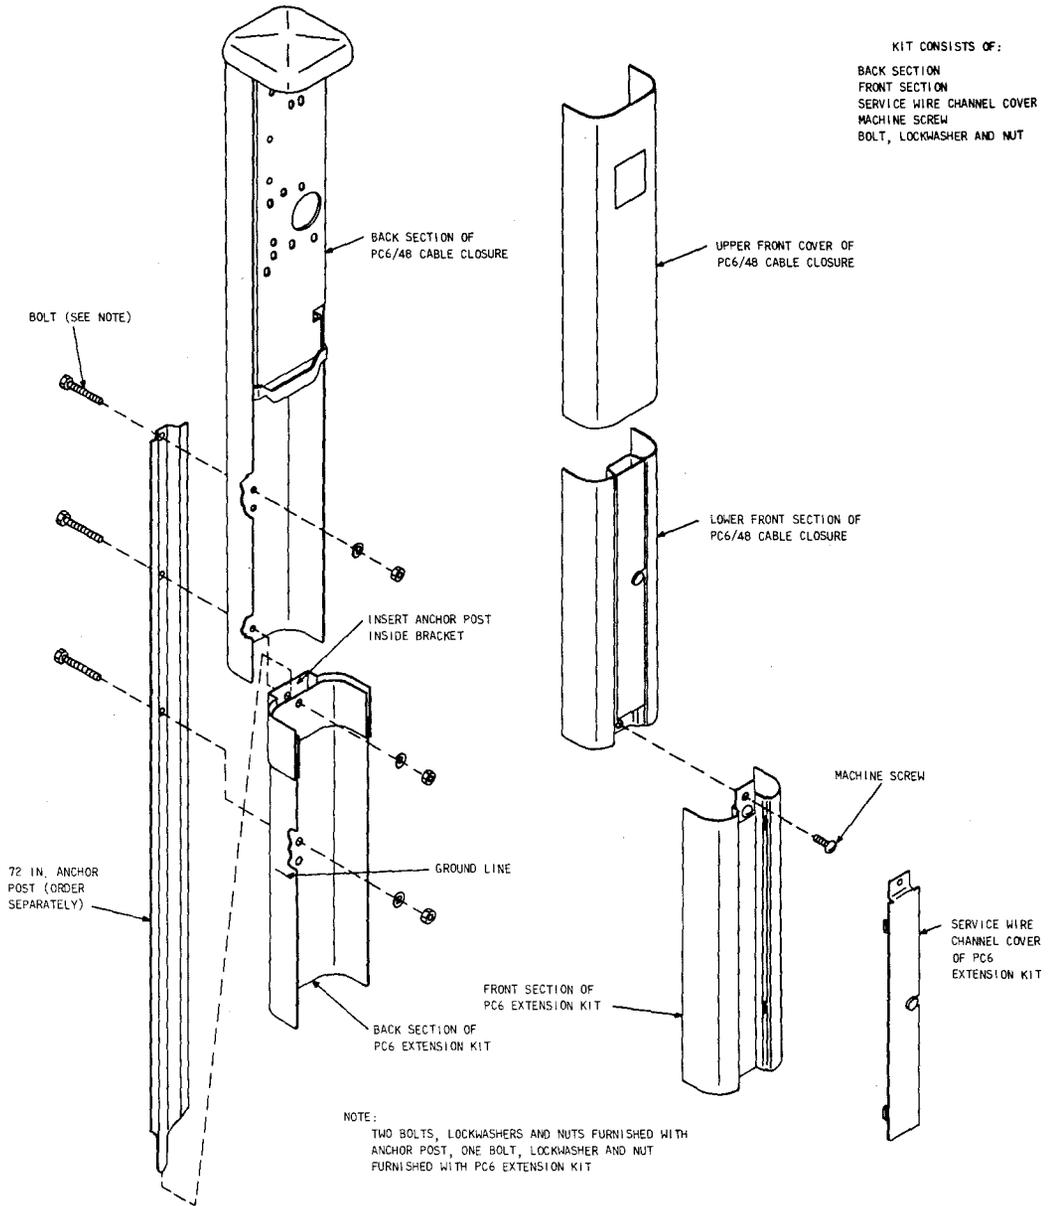

Fig. 15—Installation of PC6 Extension Kit
4.11 To extend height of closure for use in marshy areas, deep snows, high water, or any place for greater visibility, obtain a 72-inch anchor post and install a PC6 extension kit or PC6/48 cable closure as shown in Fig. 15.♦